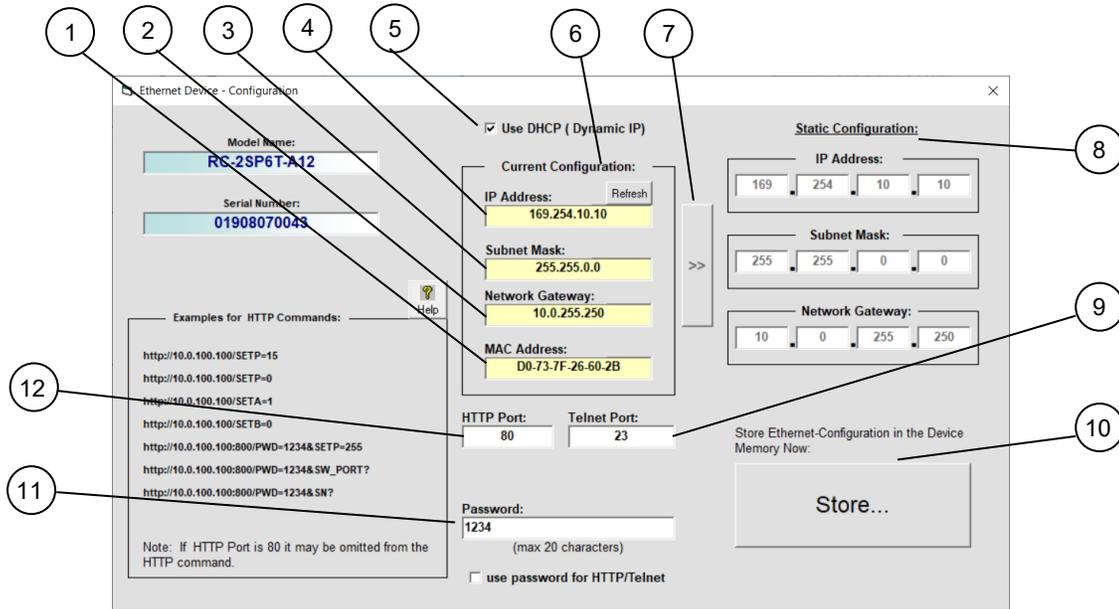

Figure 3.2.6: Ethernet Settings screen (showing factory default state)
3.2.4 **Default factory settings** for switch matrix models are Dynamic IP (DHCP) using port 80 for HTTP or port 23 for Telnet (see **Figure 3.2.6**). To change these settings, click on the “Ethernet Config” button In the GUI (see **section 3.2.4**), or use Mini-Circuits Ethernet configuration tool (see **section 3.2.7**).
3.2.5 **The Ethernet Settings screen** will open showing the current configuration. **Figure 3.2.6** shows the factory default of the units.